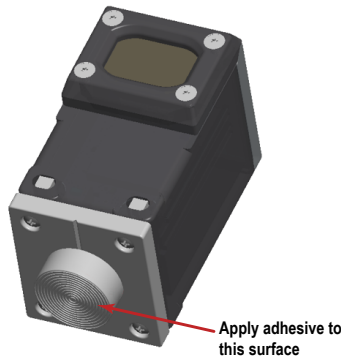

Figure 11. Apply adhesive to the disc
- Apply Loctite 330 and 7387 Activator (or similar adhesive) per instructions to the exposed clean surface of the disc and place the sensor into position, ensuring the correct alignment is shown in Before You Begin on p. 1. See Figure 11 on p. 3.